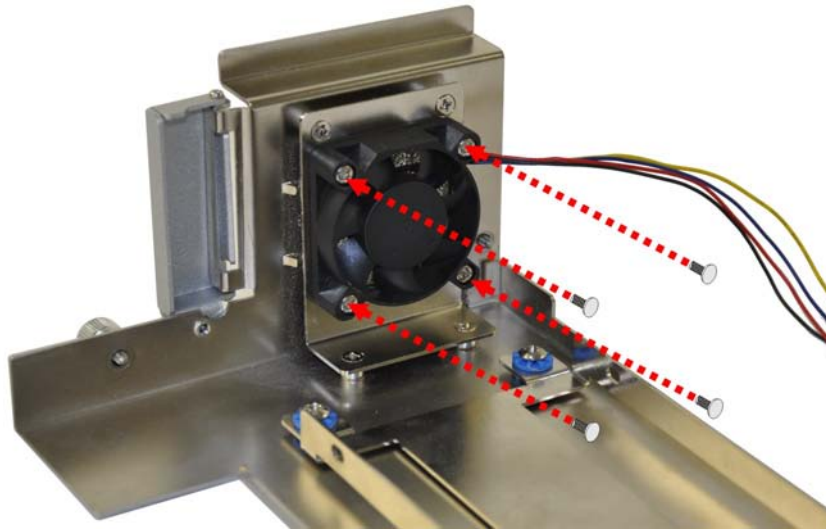

Figure 3-8: System Fan Installation
Step 3: Attach the system fan to the TANK-820-H61 and secure it by four retention screws (**Figure 3-8**).